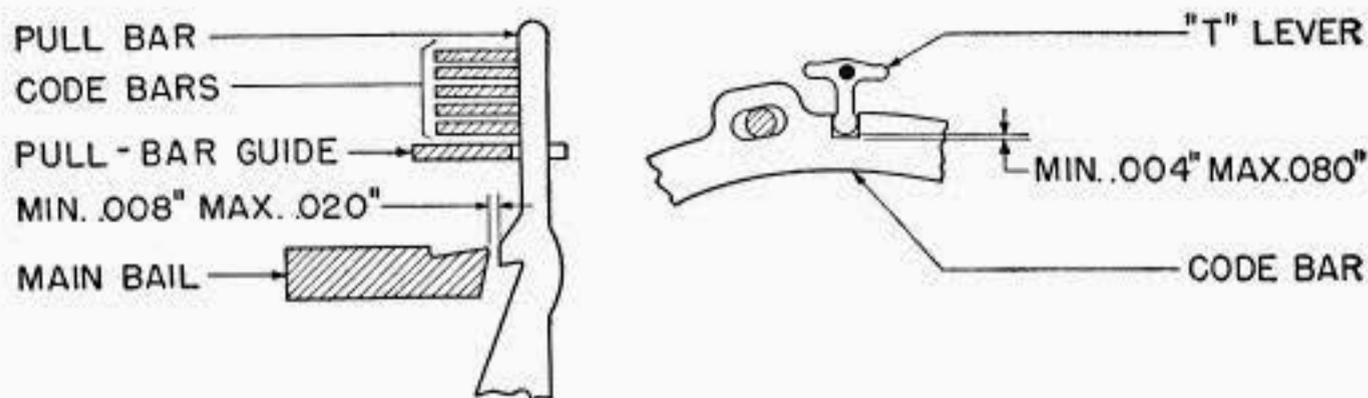

Fig. 8
- (a) There should be a clearance as indicated in Fig. 8 between the main bail and the projections on the unselected pullbars. The oilcup on the main-bail plunger should clear the pullbar guide. **Fig. 8**
- (b) There should be a clearance as indicated in Fig. 8 between the end of the No. 1 T lever and the bottom of the slot in the codebar. All other levers should have some clearance. **Fig. 8**